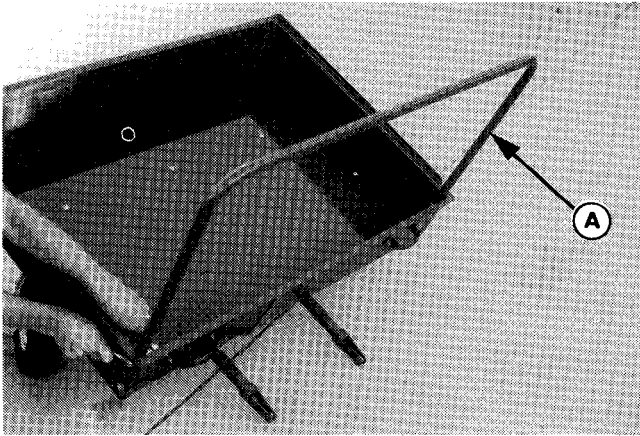

Figure 6. A. Support Tube
5. **INSTALL SUPPORT TUBE (A, figure 6) INSIDE THE BOX.** Align each end of the Support Tube with the two holes at the front corner side of the box. Place one 5/16 x 1-1/2 long hex bolt with a plastic spacer and 5/16 flatwasher through the top, outside hole of the box and the support tube. Secure with a 5/16 locknut on the inside. At the bottom hole place one 5/16 x 1-1/2 long hex bolt with a 5/16 flatwasher through the box and the support tube. Secure with a 5/16 locknut.